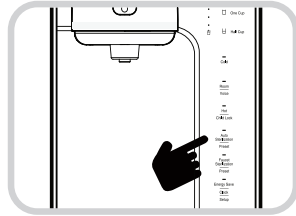

Fig. 17
1. Press the Automatic Sterilization/Preset button for three (3) seconds in the Waiting Status. (Fig. 17). The Voice Guide will say "selecting auto sterilization" "to cancel press the illuminated button" (Auto Sterilization/Preset).